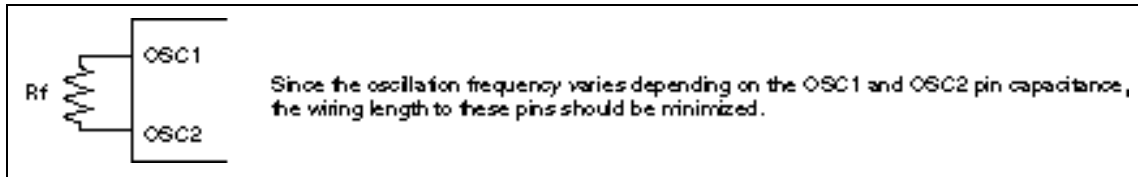

Figure 56 Internal Oscillation
10. Applies to the internal oscillator operations using external oscillation resistor  $R_f$  (figure 56 and table 31).